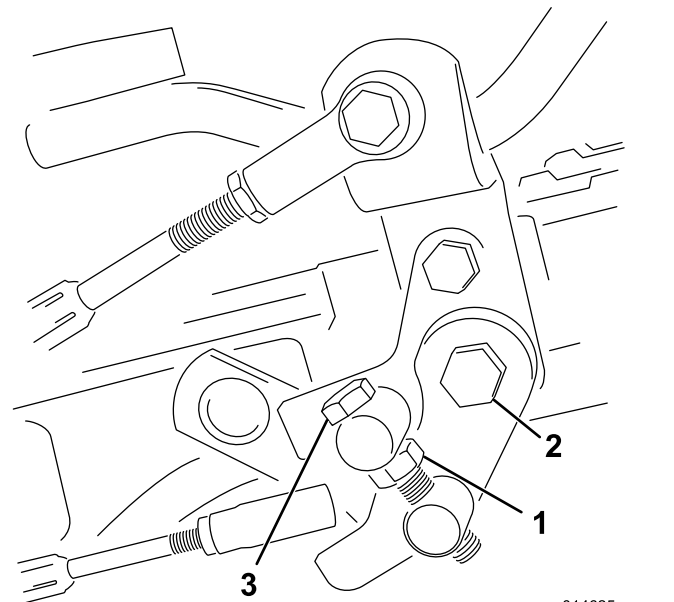

Figure 42
1. Loosen the jam nut on the trunnion bolt (Figure 42).
4. Tighten the jam nut on the trunnion bolt and the nut on the pedal pivot to lock the adjustment (Figure 42). Check the adjustment and adjust as required.